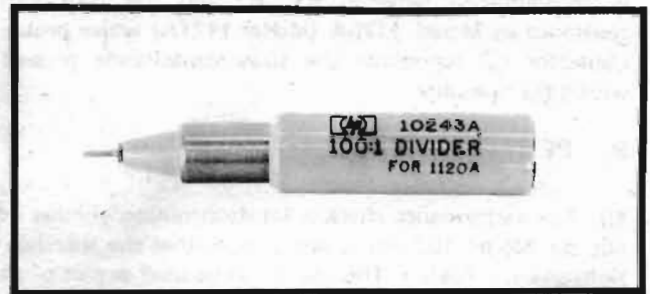

Figure 1. Model 10243A 100:1 Divider
2. The Hewlett-Packard Model 10243A (Figure 1) is a 100:1 Divider probe tip used with the Hewlett-Packard Models 1120A and 1121A Active Probes (500 MHz). The divider presents a constant impedance to the active probe regardless of the input impedance. Since the divider maintains a constant output impedance, it can be used in point-to-point circuit probing without experiencing a base-line shift or requiring response adjustments to the oscilloscope. Specifications for the Model 10243A are listed in Table 1.